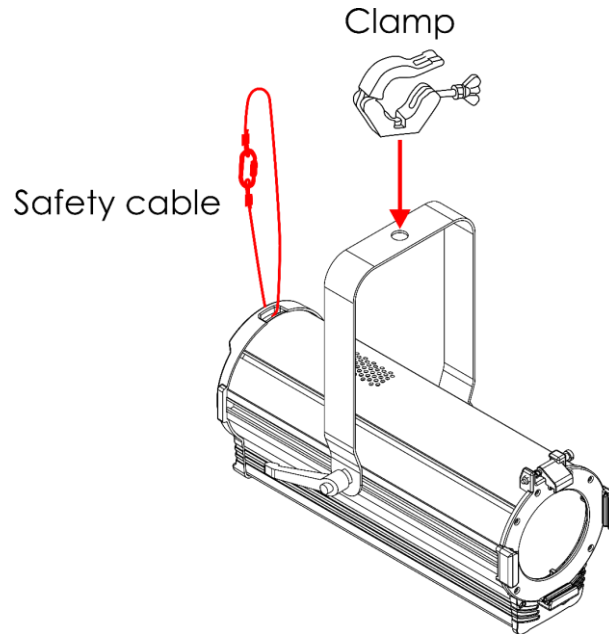

Fig. 06
- 01) Use a clamp to attach the device to the supporting structure, as shown in Fig. 06. Make sure that the device cannot move freely.
- 02) Secure the device with a secondary suspension, for example a safety cable. Make sure that the secondary suspension can hold 10 times the weight of the device. If possible, the secondary suspension should be attached to a supporting structure independent of the primary suspension. Put the safety cable through the **safety eye (06)**, as shown in Fig. 06.